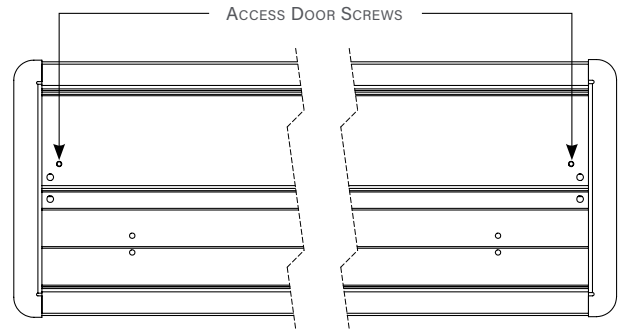
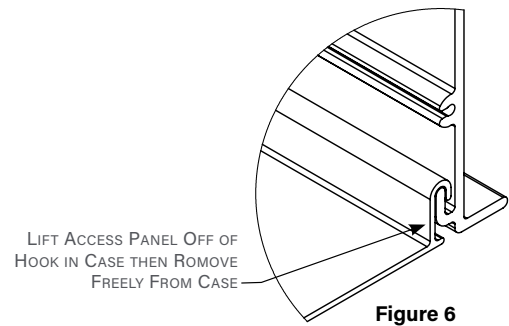

Figure 5
Figure 6
3. Remove the access door. First, remove the 2 screws from the ends using a #2 Phillips screwdriver (Figure 5). Be sure to support the door during this step to avoid injury. Then lift the door slightly and pull away from the edge of the case (Figure 6).